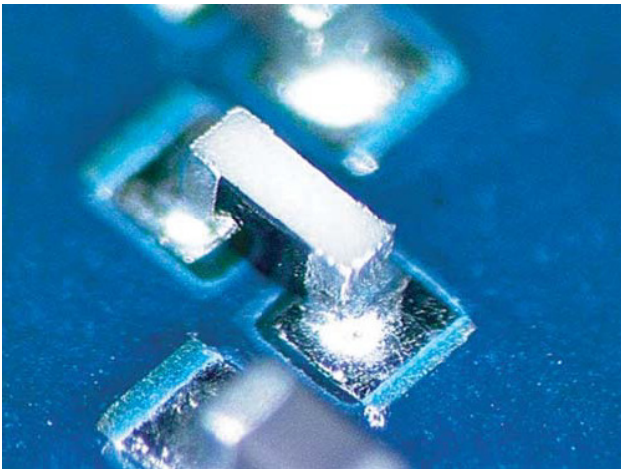

Figure 8-37
- Width (W) to height (H) ratio does not exceed two to one (2:1); see Figure 8-37.
- Width (W) to height (H) ratio that does not exceed 1.25:1 ratio.